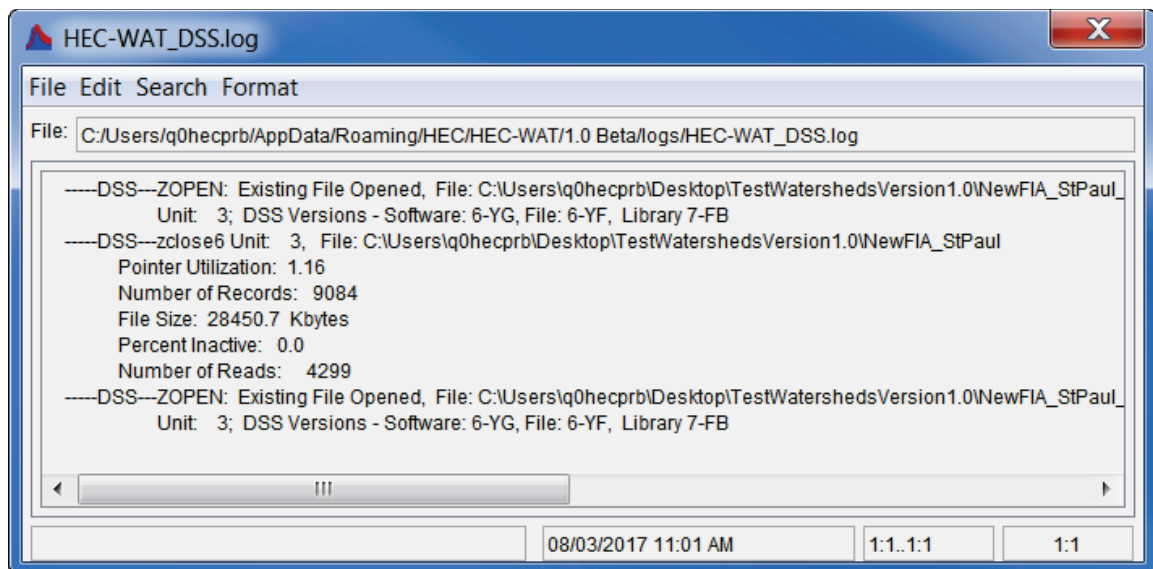

Figure B.23 HEC-WAT\_DSS.log Editor
1. From the HEC-WAT main window (Figure B.2), from the **Tools** menu, point to **Logs**, click **HEC-DSS Log**, the **HEC-WAT\_DSS.log Editor** will open (Figure B.23).